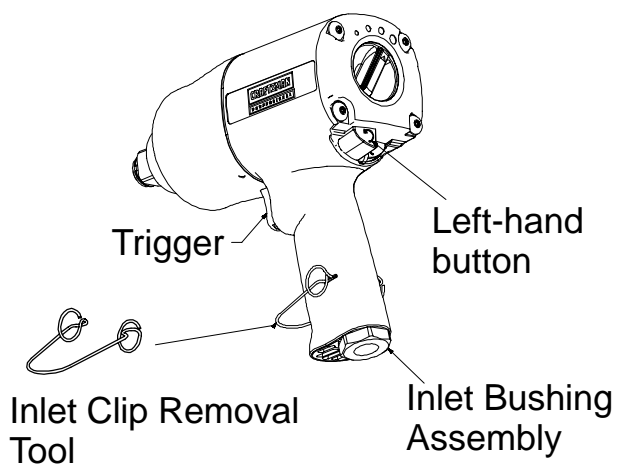

Figure 6
**NOTICE:** For ease of disassembly, we recommend using the Inlet Clip Removal Tool (43). See Figure 6.